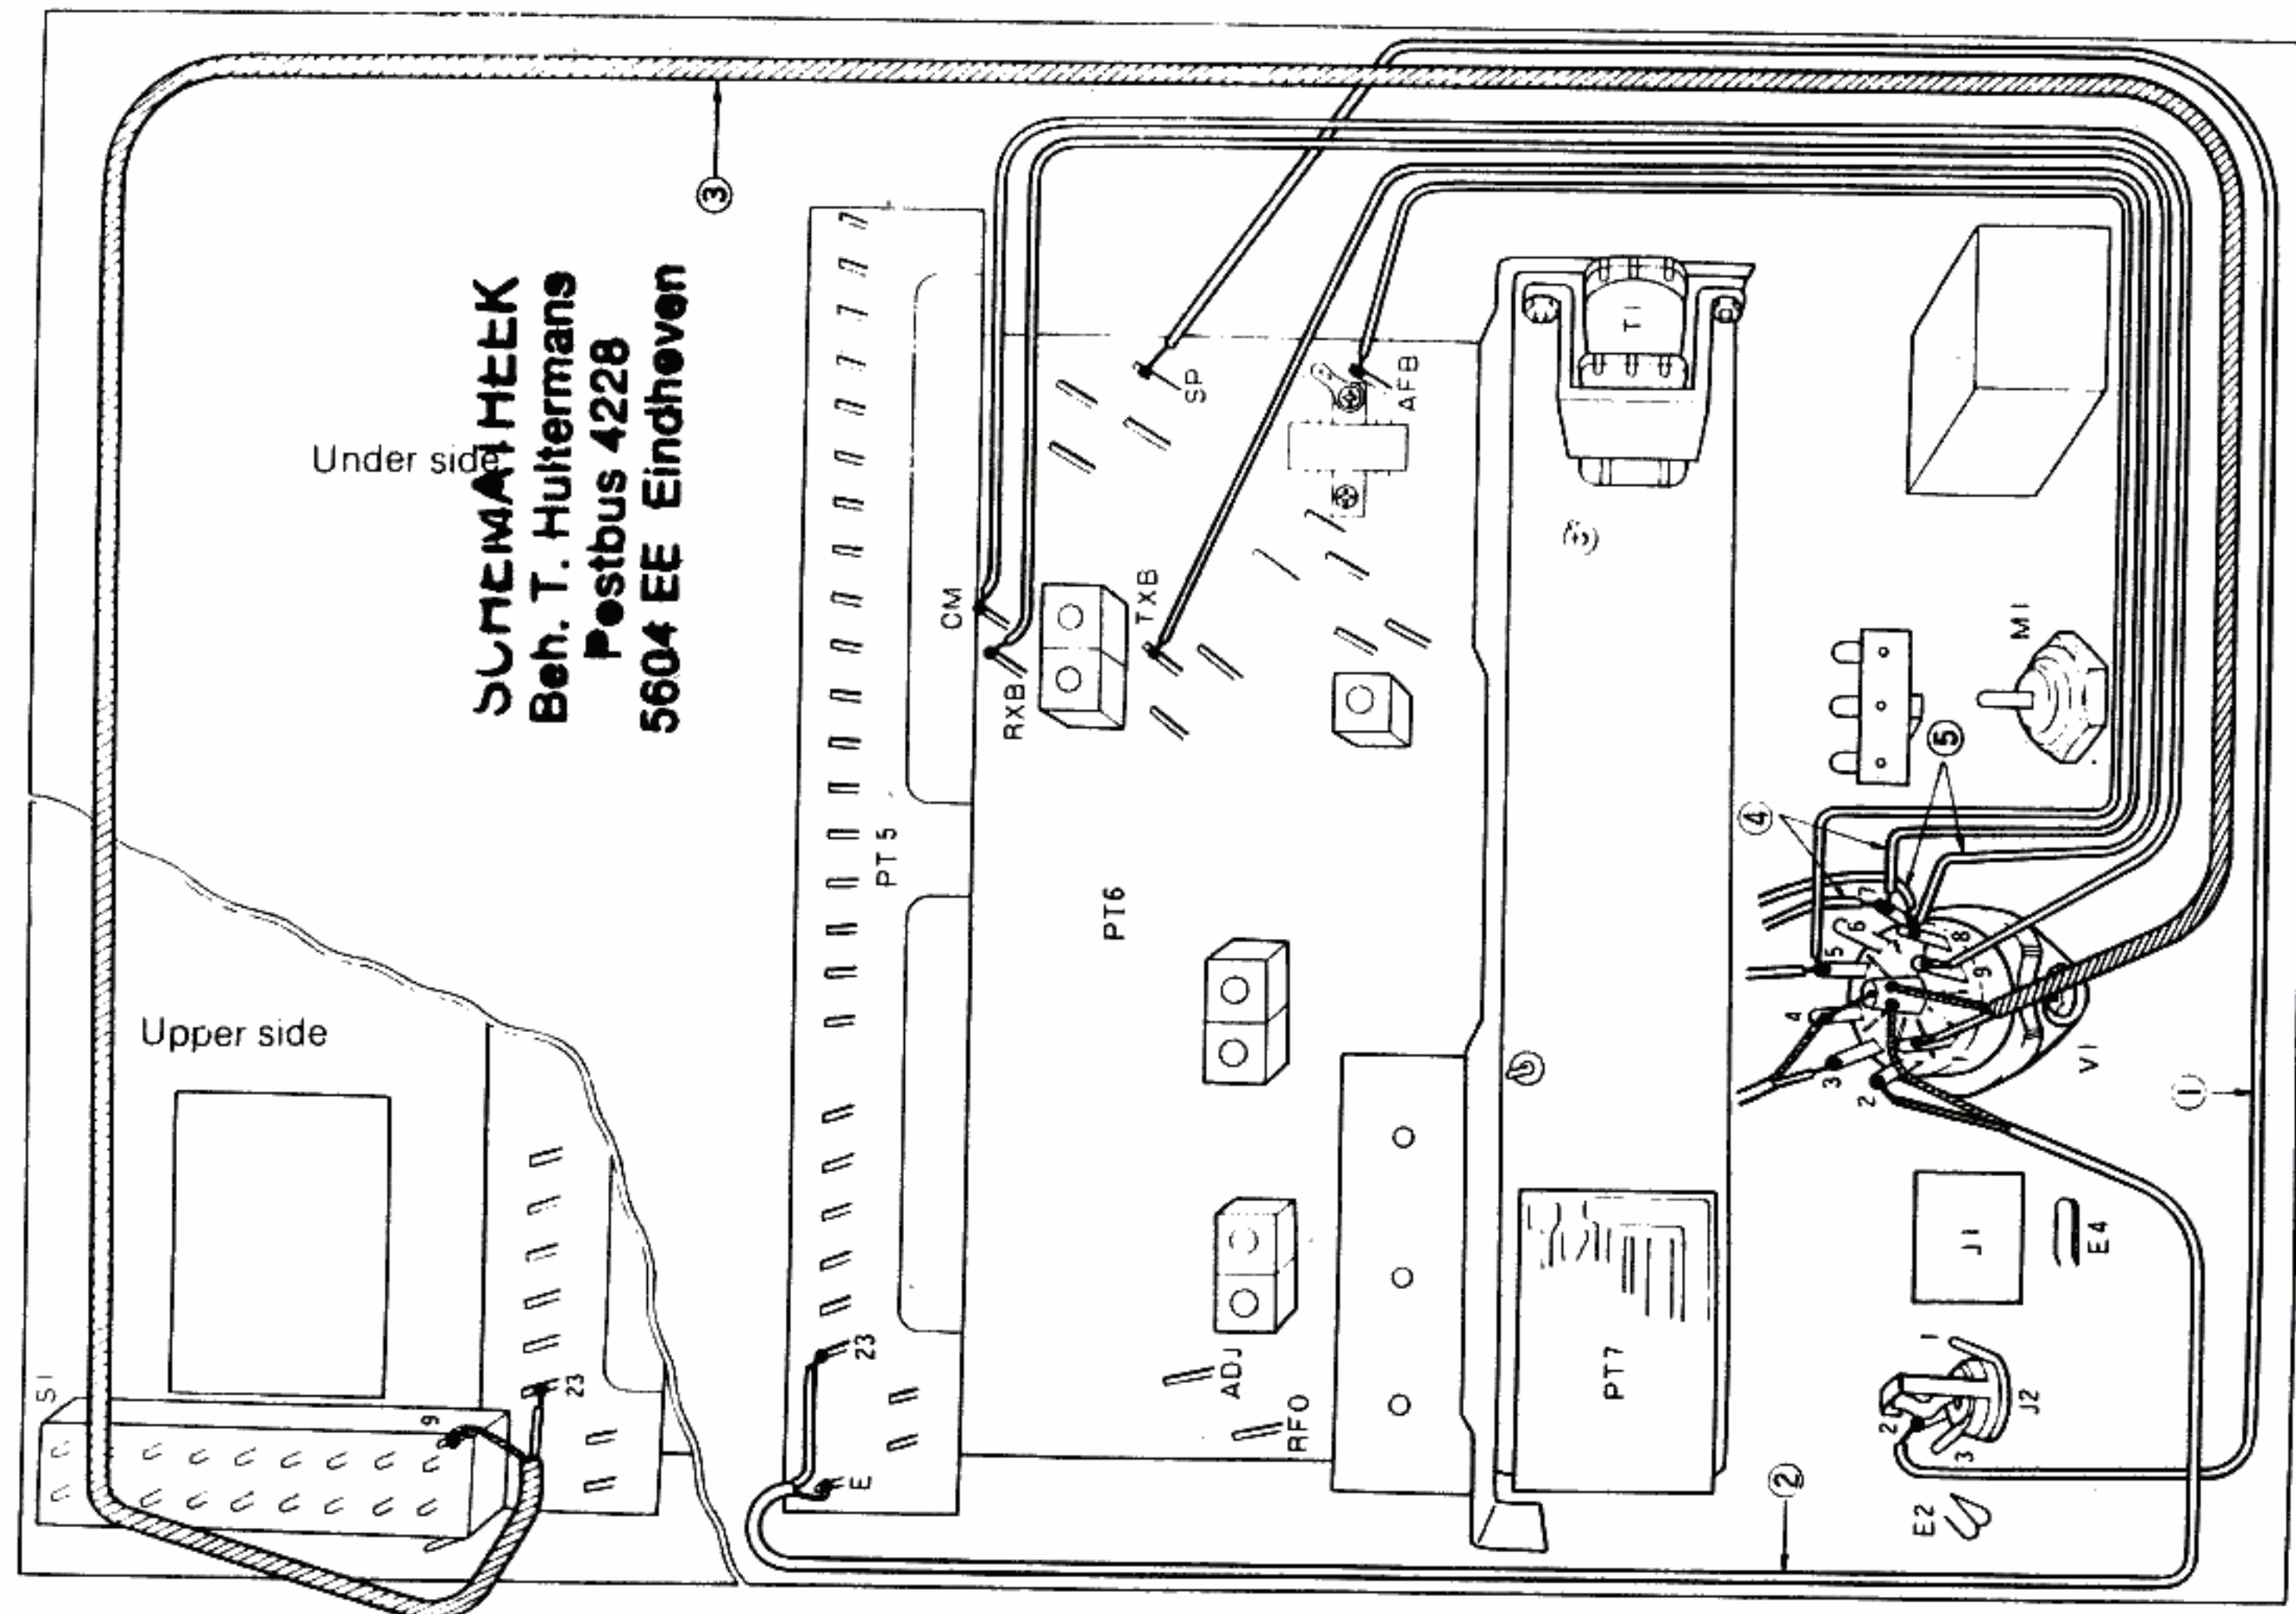

Fig. 3. TR-7200 WIRING DIAGRAM (MODIFIED)
2. Make wiring for ② and ③ by use of provided wires. When the modification is finished, check the modified parts again. The 9-pin receptacle at the back of TR-7200 should have the wiring configuration as shown in Fig. 3. In some sets, the center meter terminal CM (on the printed circuit board at the speaker side) is not provided (A) or not wired (B). In these cases, the following modifications are required in addition to those mentioned in the above.